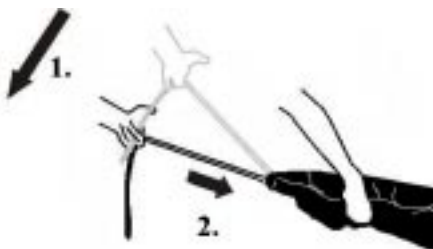

Figure 8. *First push the extension outward and then push the extension forward until you feel that the extension clicks into its place.*
b. Push the extension along the outermost side of the hole until you can feel that it hits the end of the front tube. Then push the extension outward until it's in line with the front tube. Finally push the extension forward until you feel that it clicks into its place in the end of the front tube. You have to use some force when installing the extension. (See figure 8.)